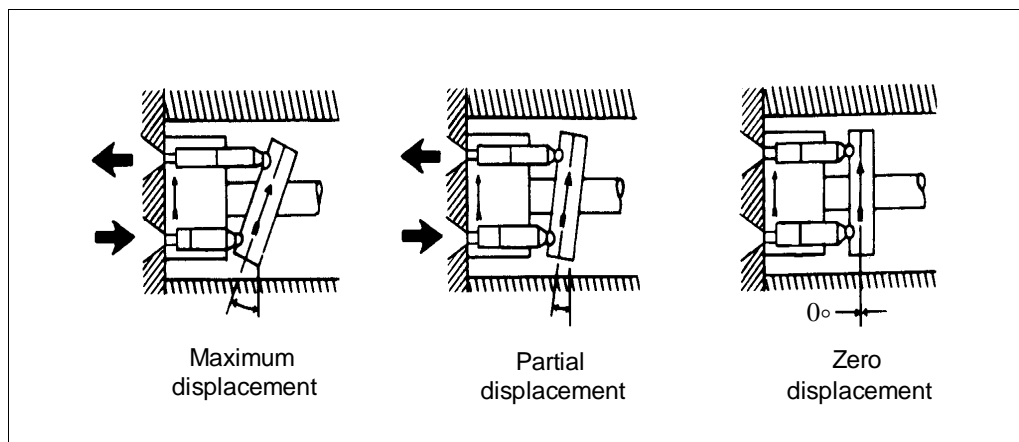

Figure 1-4. Piston-pump displacement
b. Displacement (outflow) from the piston pump depends on the number of pistons, their bore, and their stroke. The swash plate's angle determines the stroke; therefore, the stroke can be changed by altering the angle (Figure 1-4).